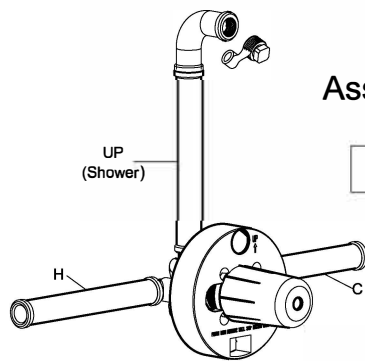

Fig .2
- 2 A. Position valve body correctly in wall (see Fig. 2).